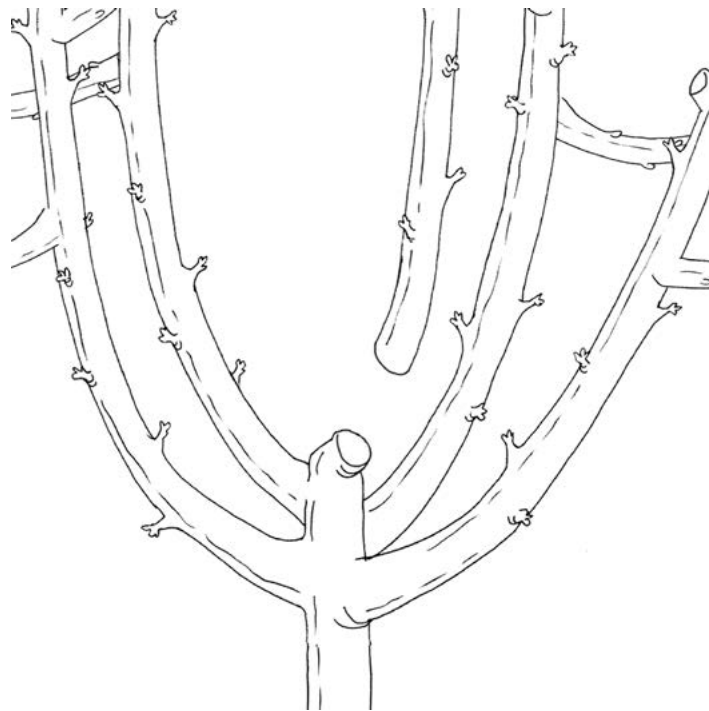

Figure 33
- Allow the temporary branches that were left in the first dormant season to fruit. Once growth begins to slow due to fruiting, remove these to improve light distribution to the tree bottom (Figure 33).